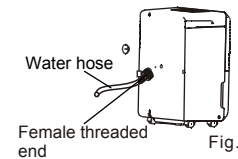

Fig.10
- Install the female threaded end of the water hose into the adaptor A.(See.Fig.10), then lead the water hose to the floor drain or a suitable drainage facility.